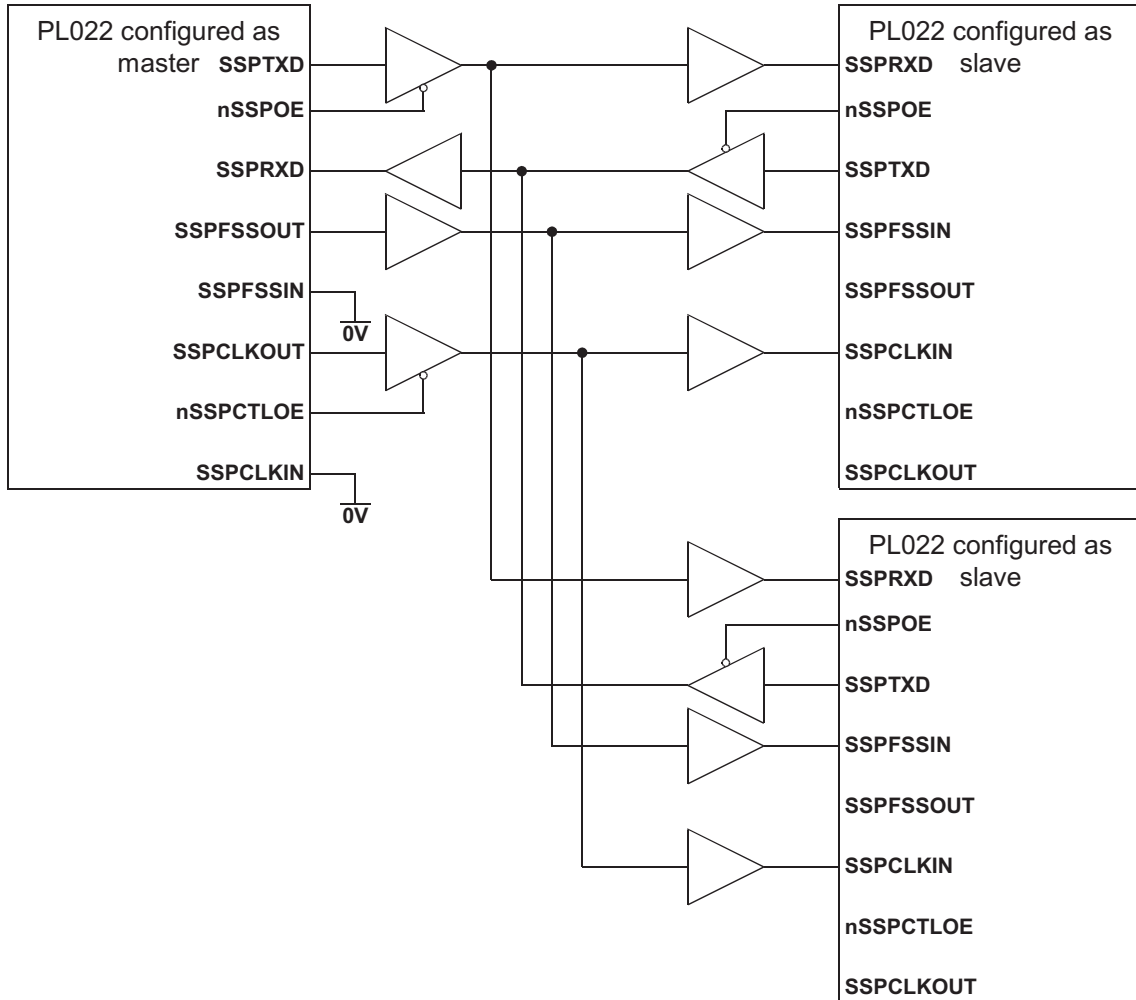
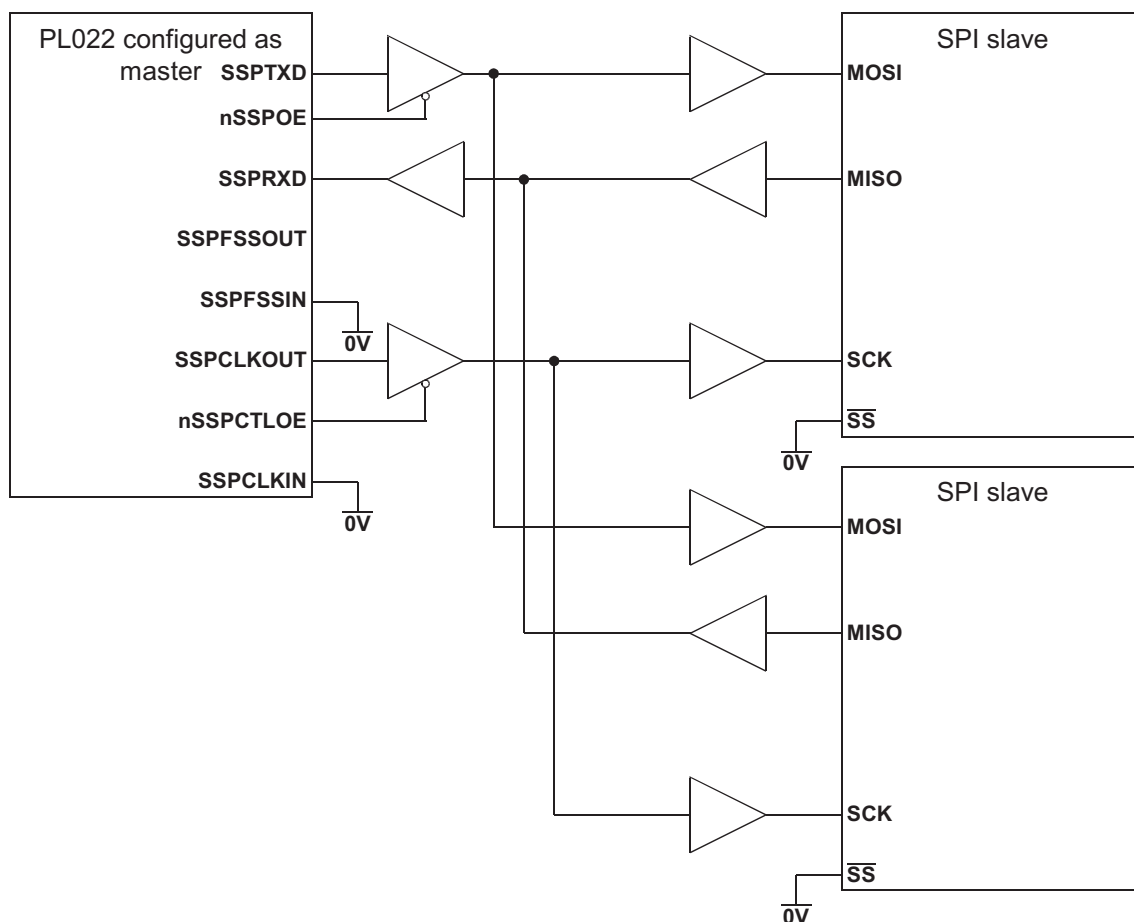
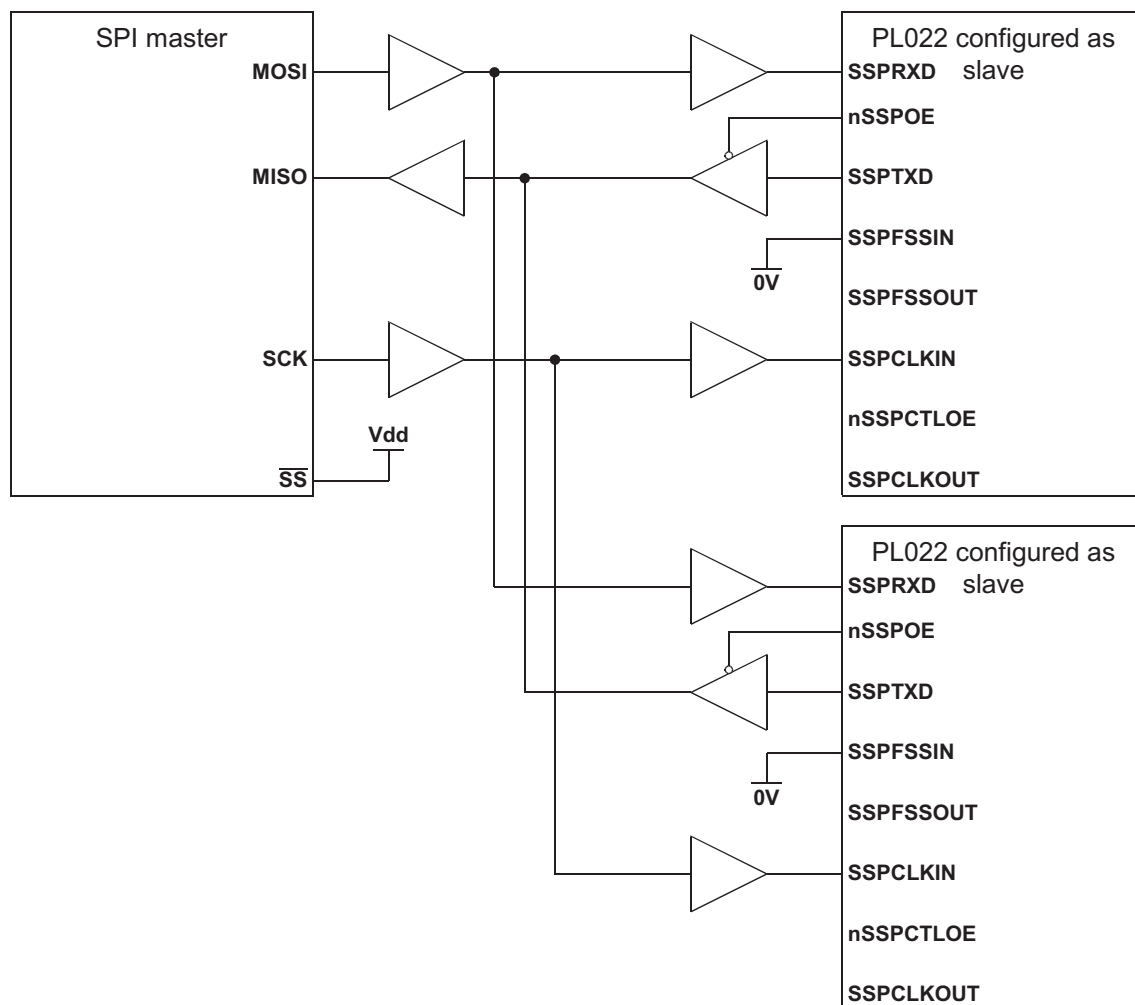

Figure 2-13 PrimeCell SSP master coupled to two slaves
Figure 2-14 PrimeCell SSP master coupled to two SPI slaves
Figure 2-15 SPI master coupled to two PrimeCell SSP slaves
Figure 2-13 on page 2-22, Figure 2-14 on page 2-23 and Figure 2-15 on page 2-24 show how the PrimeCell SSP (PL022) peripheral can be connected to other synchronous serial peripherals, when it is configured as a master or slave.
Figure 2-13 shows the PrimeCell SSP (PL022) instantiated three times, as a single master and two slaves. The master can broadcast to the two slaves through the master **SSPTXD** line. In response, only one slave drives its **nSSPOE** signal HIGH, thereby enabling its **SSPTXD** data onto the **SSPRXD** line of the master.
Figure 2-14 shows how an PrimeCell SSP (PL022), configured as master, interfaces to two Motorola SPI slaves. Each SPI *Slave Select* (SS) signal is permanently tied LOW and configures them as slaves. Similar to the above operation, the master can broadcast to the two slaves through the master PrimeCell SSP **SSPTXD** line. In response, only one slave drives its SPI MISO port onto the **SSPRXD** line of the master.
Figure 2-15 shows a Motorola SPI configured as a master and interfaced to two instances of PrimeCell SSP (PL022) configured as slaves. In this case the slave *Select Signal* (SS) is permanently tied HIGH and configures it as a master. The master can broadcast to the two slaves through the master SPI MOSI line and in response, only one slave drives its **nSSPOE** signal LOW. This enables its **SSPTXD** data onto the MISO line of the master.